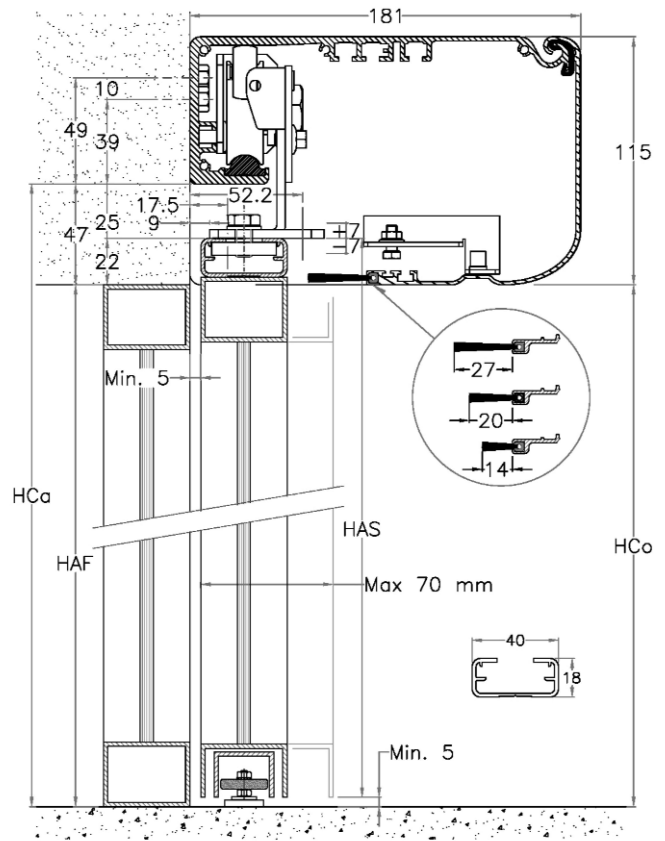
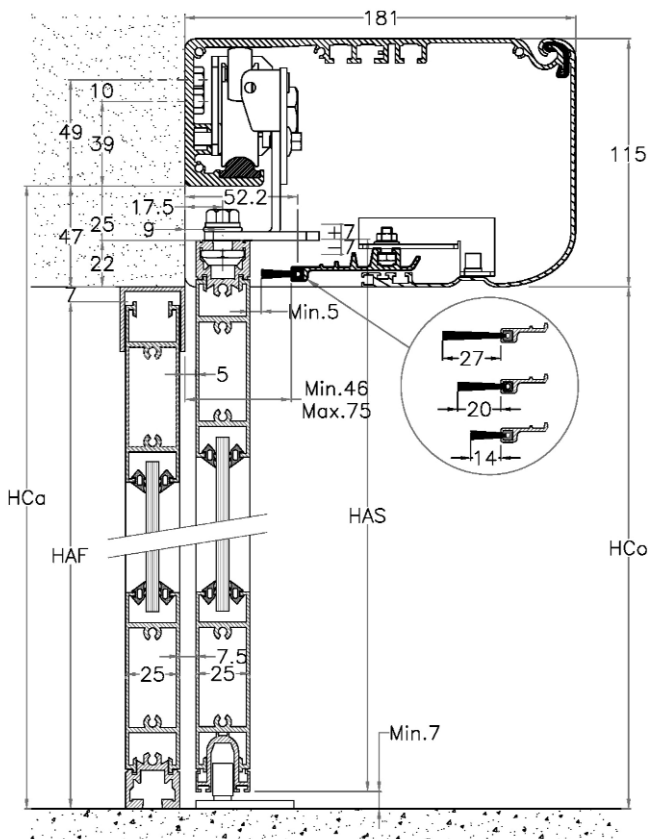
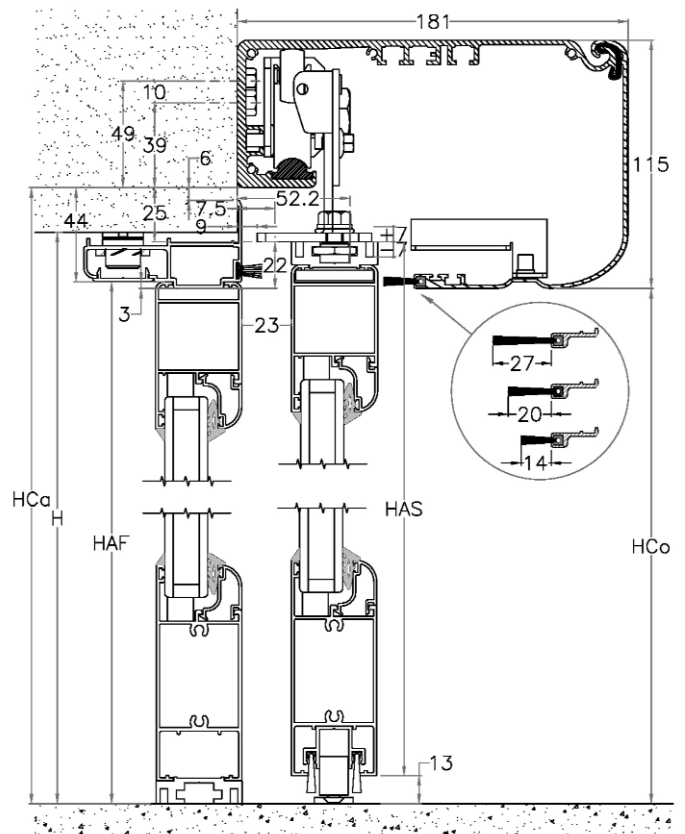

Fig. 6 - Standard wing profiles
Fig. 7 - Sesamo SMALL wing profiles
Fig. 8 - Sesamo MAGNUM wing profiles
- Fig.6** if standard wing profiles are used;
- Fig.7** if Sesamo mod. **SMALL** wing profiles are used;
- Fig.8** if Sesamo mod. **MAGNUM** wing profiles are used.
For the abbreviations found in **Fig.6**, **Fig.7** and **Fig.8** refer to the following table::